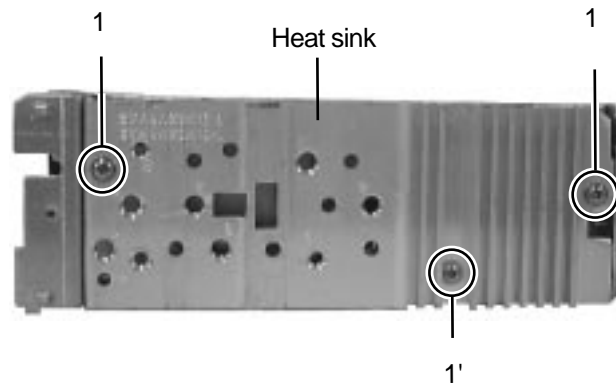

Fig. 5
■ **Removing the Heat Sink (See Fig. 5)**
(See Fig. 5 to 7)